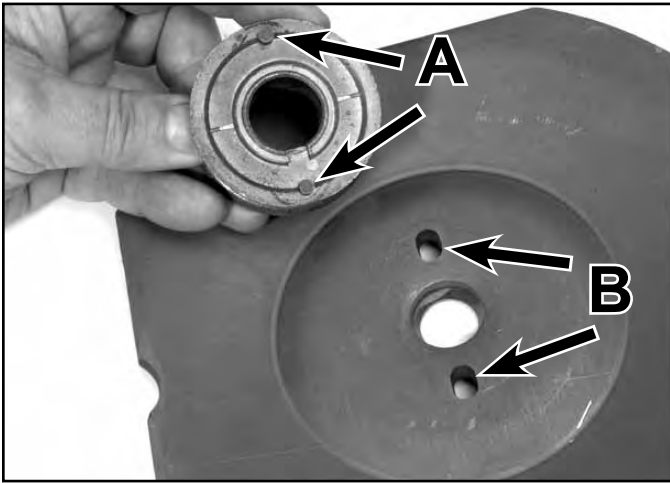

Fig 208
6. Install the BBC flywheel onto the crankshaft, making certain that the slots in the BBC flywheel align with the bumps on the bottom of the self-propel pulley (Fig. 208).